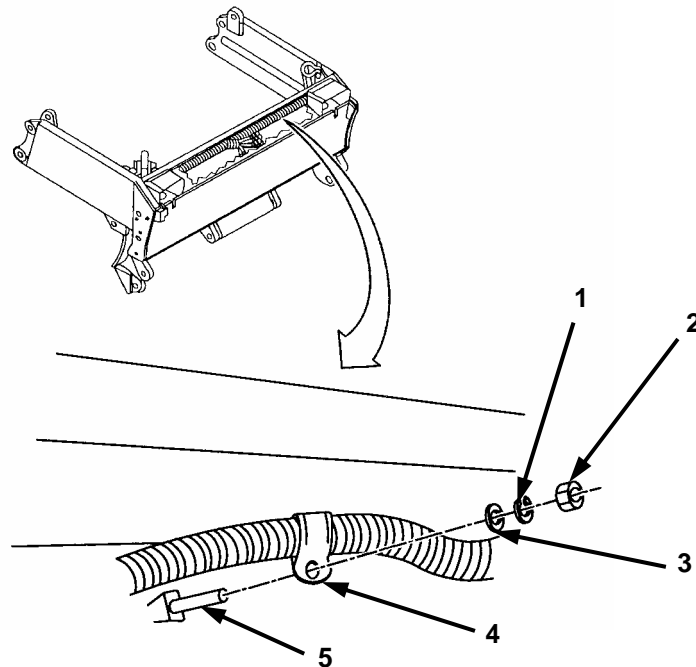

Figure 2-34. Headlight Wiring Harness Loop Clamp.
- h. Align four holes (5) in headlight (1) with holes (7) on hull (6). Make sure cable (8) is in groove in headlight.
- i. Attach headlight (1) with four bolts B1821BH031C113N (2), lock washers MS35338-45 (3), and flat washers MS27183-12 (4) to hull (6). Torque screws between 40 to 48 lb-ft (54 to 65 N•m).
- j. Install hose clamp MS21333-105 (Figure 2-34, 4), flat washer MS27183-10 (3), lock washer MS35338-44, (1) and nut MS35649-2254 (2) to stud (5) on apron.